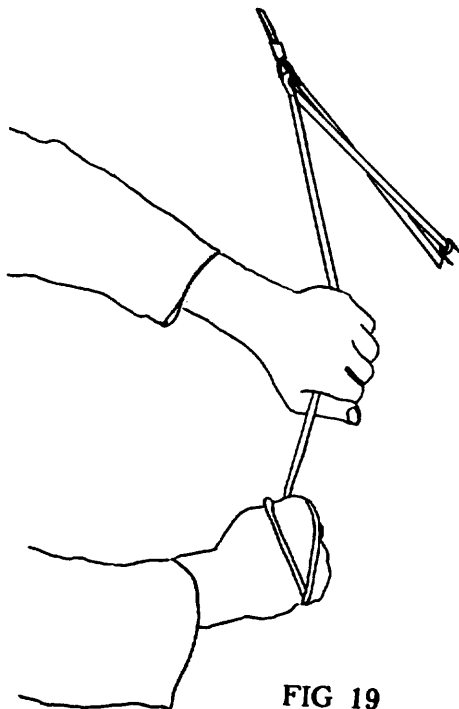

FIG 19
15) Wrap the leech line around your right hand, and push on the line with your left hand while pulling down with your right. This will allow you to pull the crossbar center back far enough so that you can insert the bolt through the hole in the keel, install the other side of the wire, and secure the assembly with the wing nut and safety. (Fig 19, 20, 21 and 22)